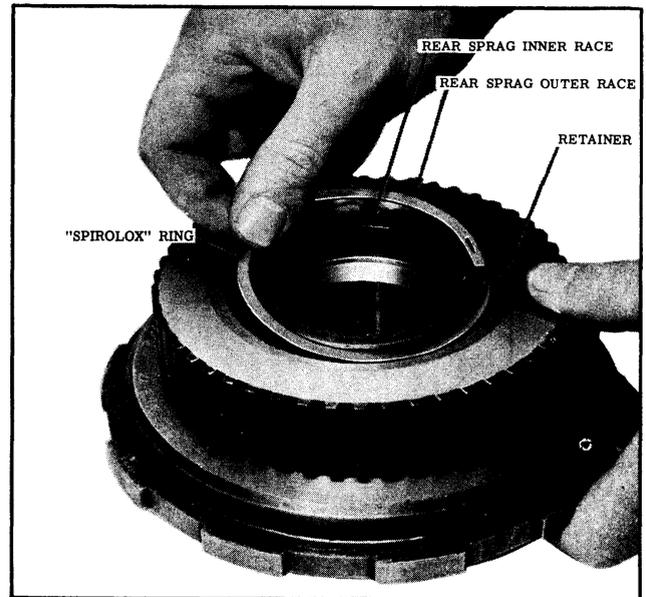

Fig. 3-62 Spirolax Ring Removal
13. Remove the Spirolax ring from the rear sprag inner race. (See Fig. 3-62)